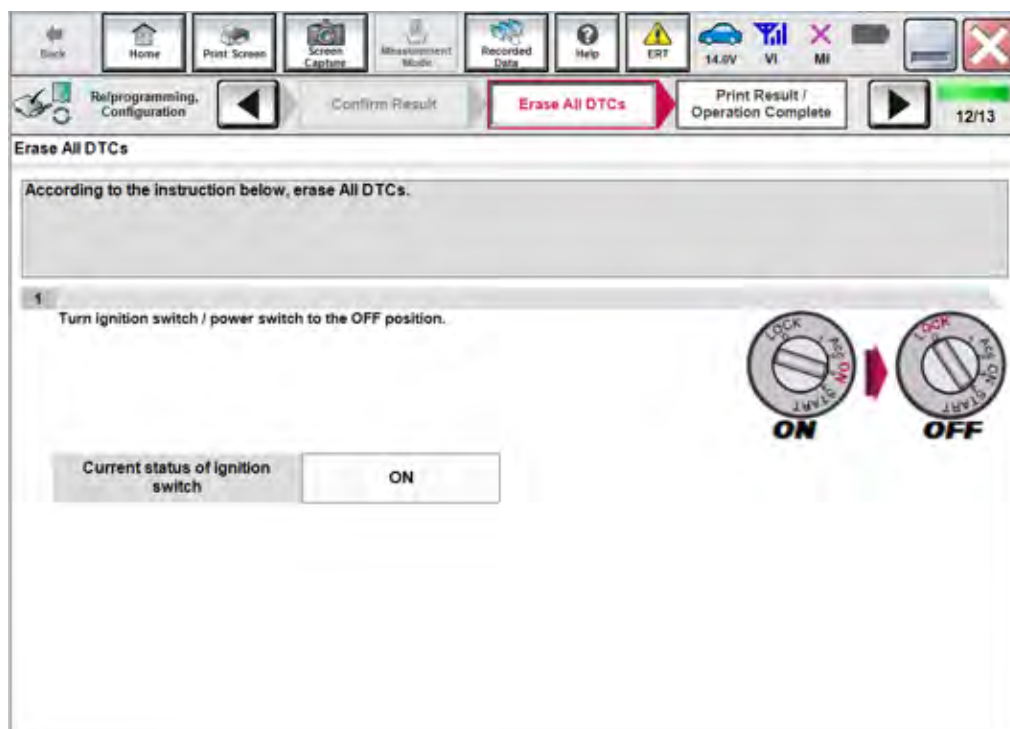
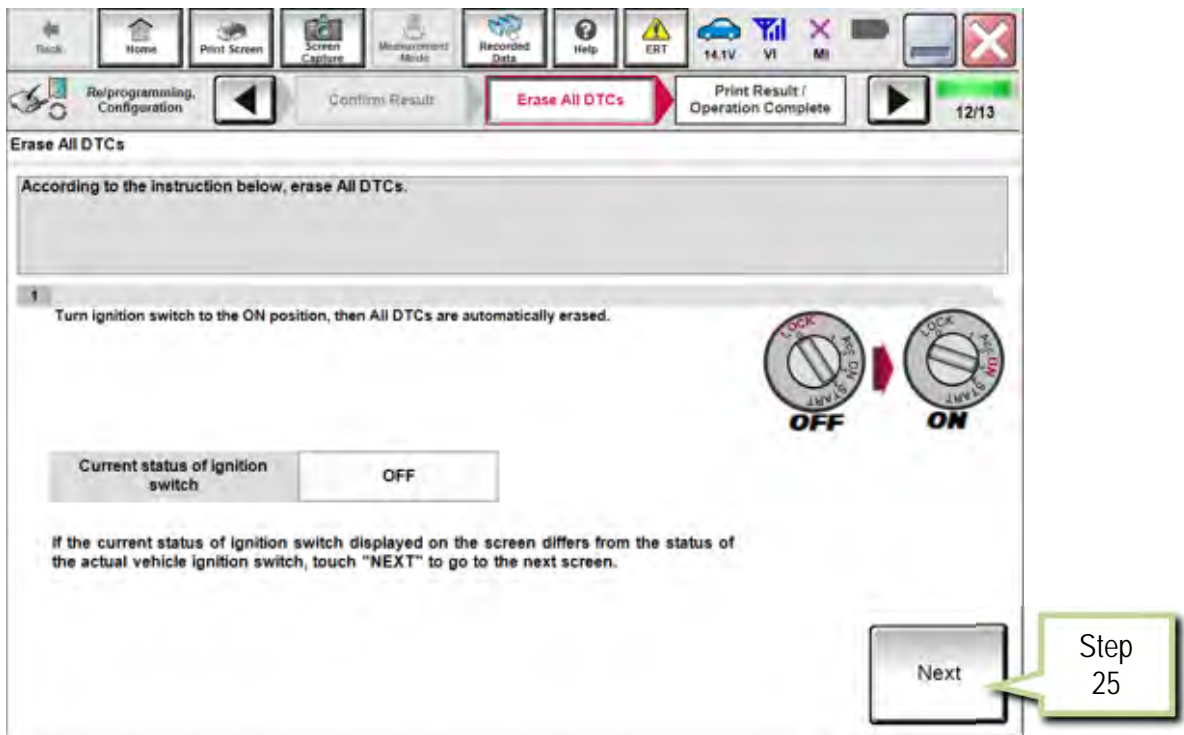

Figure 17A
Figure 18A
- See Figure 17A below, and Figure 18A on the next page.